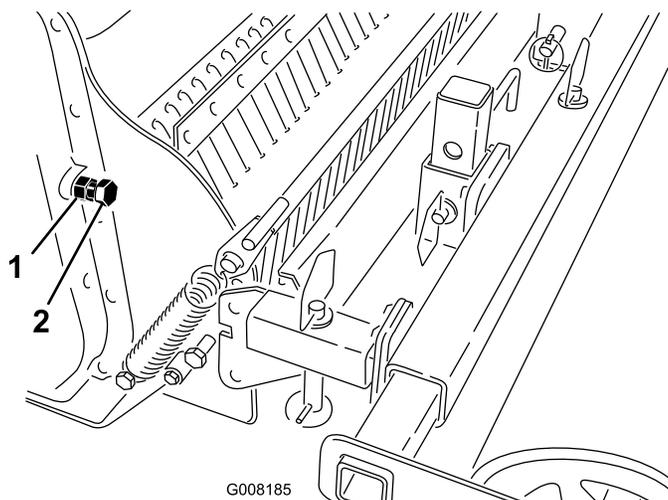

Figure 11
2. Loosen the jam nut on the chain-adjusting screw (Figure 11).
3. Turn the screw by hand until you feel resistance (Figure 11).